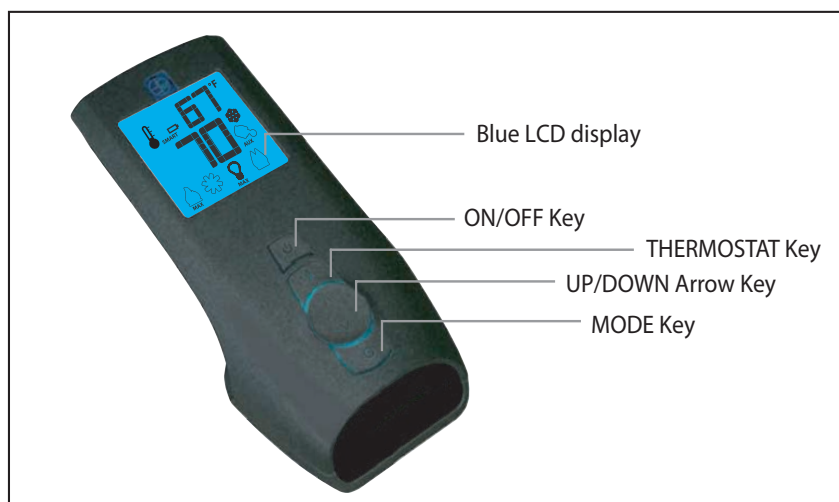
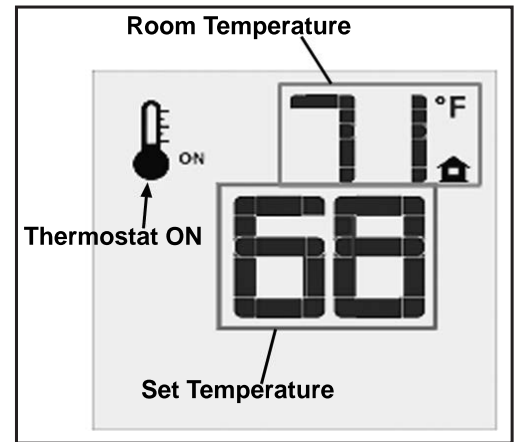
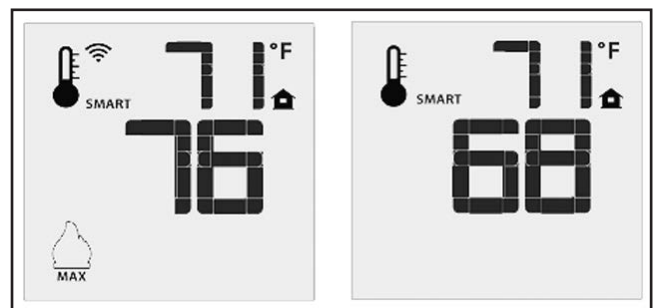

Figure 4: Proflame 2 Transmitter.
Figure 9: Remote Control Displays Set Temperature.
Figure 10: Remote Control's Smart Flame Function.
The Proflame 2 Transmitter is a black remote control with a blue backlit lcd display. It uses a streamline design with a simple button layout and informative lcd readout (Figure 5). The Transmitter is powered by three (3) AAA type batteries. A Mode Key is provided to Index between the features and a Thermostat Key is used to turn on/off or index through Thermostat functions (Figure 4 & Figure 5)
Press the ON/OFF Key on the Transmitter. The Transmitter LCD display will only show the room temperature and Icon (see Figure 9). A single “beep” from the IFC confirms reception of the command and both the pilot light (if the unit is not set to continuous pilot) and main burner will turn off.
The Remote Control can operate as a room thermostat. The thermostat can be set to a desired temperature to control the comfort level in a room. To activate this function, press the Thermostat Key (see Figure 4). The LCD display on the Transmitter will change to show that the room thermostat is “ON” and the set temperature is now displayed (see Figure 9). To adjust the set temperature, press the Up or Down Arrow Keys until the desired set temperature is displayed on the LCD screen of the Transmitter.
The Smart Thermostat function adjusts the flame height in accordance to the difference between the set point temperature and the actual room temperatures. As the room temperature gets closer to the set point the Smart Function will modulate the flame down. To activate this function, press the Thermostat Key (Figure 4) until the word “SMART” appears to the right of the temperature bulb graphic (Figure 10). To adjust the set temperature, press the Up or Down Arrow Keys until the desired set temperature is displayed on the LCD screen of the Transmitter.